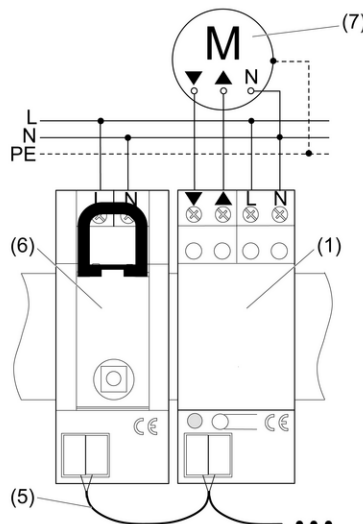

Figure 2
- Venetian blind actuator (1) on DIN rail.
- Connect Venetian blind actuator in accordance with connection diagram (Figure 2) and connect to the Venetian blind or roller shutter motor (7).
- Connect Venetian blind actuator to terminal (4) via a bus cable with the RMD radio receiver (6) and/or other radio actuators.